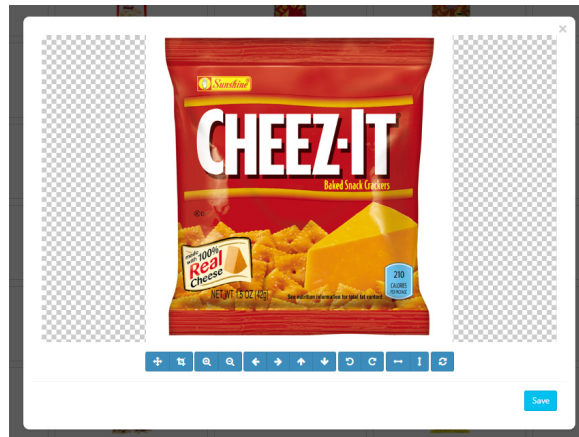

Figure 25
- Your image will be presented in an editing screen with the different editing features buttons below it (figure 25).